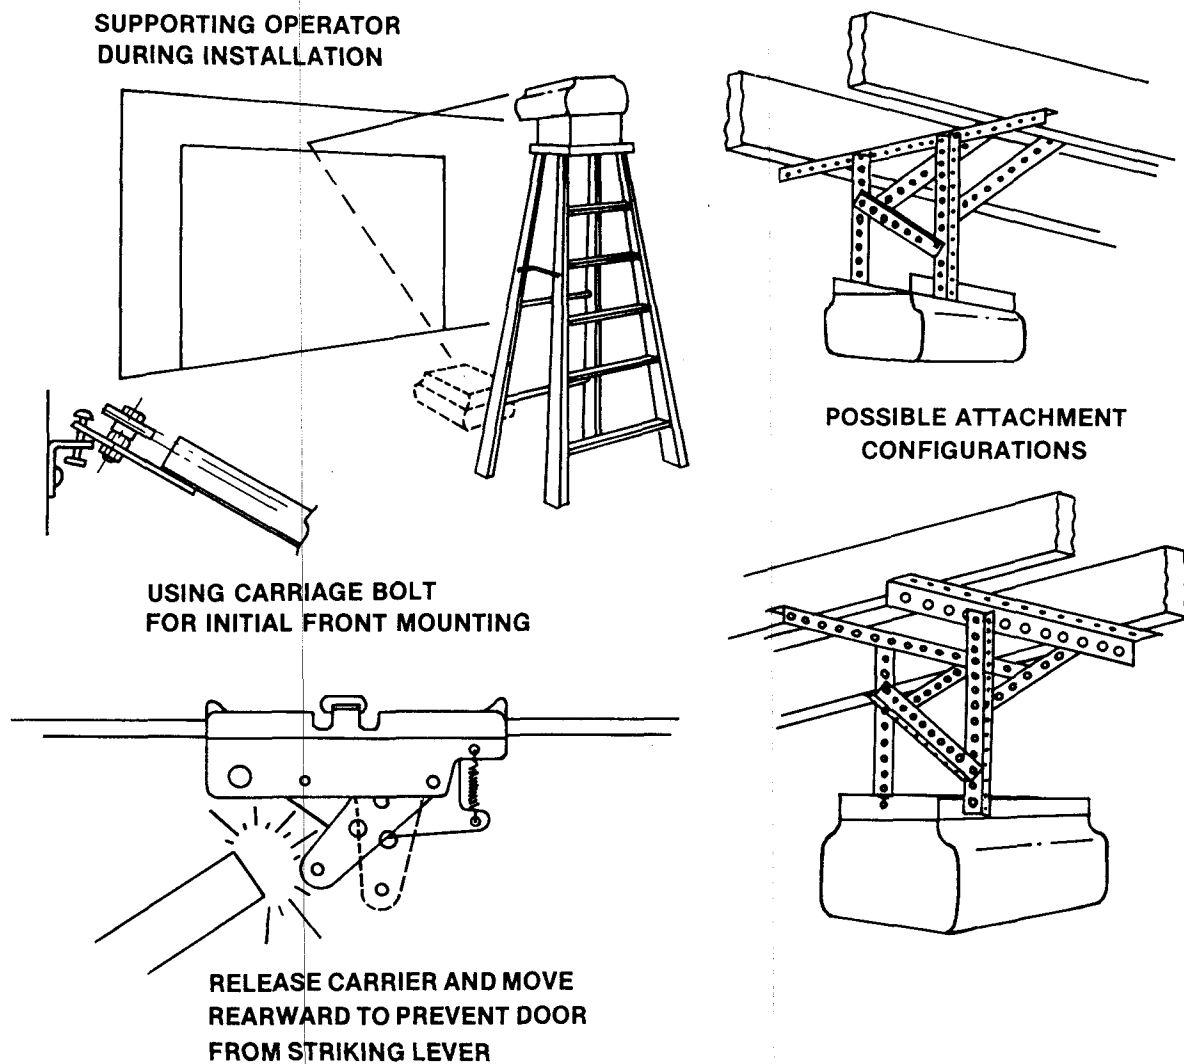

FIG. 5
STEP 5. A rear mount must be constructed to secure the rear of the operator to the ceiling. The distance from the operator to the ceiling structure can be measured at this time to determine the approximate length of perforated angle iron or other suitable metal required to suspend the operator. The operator frame plate is 6-1/2" wide. The vertical supports should be 3-1/4" from each side of the center line. (See Fig. 5 for an example of possible structures). The mount must be braced to minimize lateral movement in all directions.
STEP 3. Place the front end of the rail on the bracket attached in **STEP 2**, and drop one of the 1/4" x 2" carriage bolts through the hole in the end of the rail and the center hole in the bracket. (See Fig. 5). Run one of the 1/4" nuts on the end of the bolt a few turns. This will temporarily hold the rail in place while the back end is swung upward and rested on a step ladder. **CAUTION: IF ADDITIONAL HEIGHT IS REQUIRED, BE CERTAIN THAT THE MEANS USED PROVIDES A STURDY AND STABLE NON-SKID PLATFORM. PULL THE CARRIER RELEASE ARM TO A VERTICAL POSITION AND SLIDE THE OUTER HALF OF THE CARRIER TO THE REAR OF THE RAIL. THIS WILL PREVENT THE DOOR FROM STRIKING THE LEVER.** At this time the door can be opened to its high arc position. It will be necessary to support the door so that it will remain in this position. Position the rail over the center of the top section of the door.
STEP 4. A rear mount must be constructed to secure the rear of the operator to the ceiling. The distance from the operator to the ceiling structure has already been determined in **STEP 3**. Measure and cut the appropriate length of perforated angle iron or other suitable metal required to suspend the operator. The operator frame plate is 6-1/2" wide. The vertical supports should be 3-1/4" from each side of the center line. (See Fig. 5 for an example of a possible construction). Construct the mount and secure it to the structure in the ceiling. Secure the operator to the mount. The mount must be braced to minimize lateral movement in all directions.